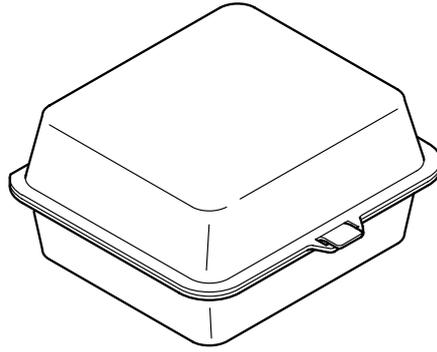

Fig. 2
- 7 Give **two** reasons why expanded polystyrene is used for food containers as shown in Fig. 2.